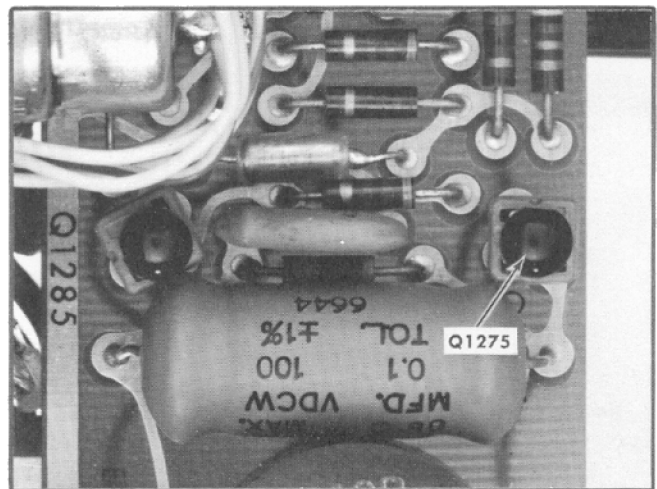

Fig. 6-5. Location of Q1275 (Calibrator circuit board).
2. Adjust +12-Volt Power Supply ①
- b. Remove Q1275 (behind swing-out side panel; see Fig. 6-5) from the Calibrator board.